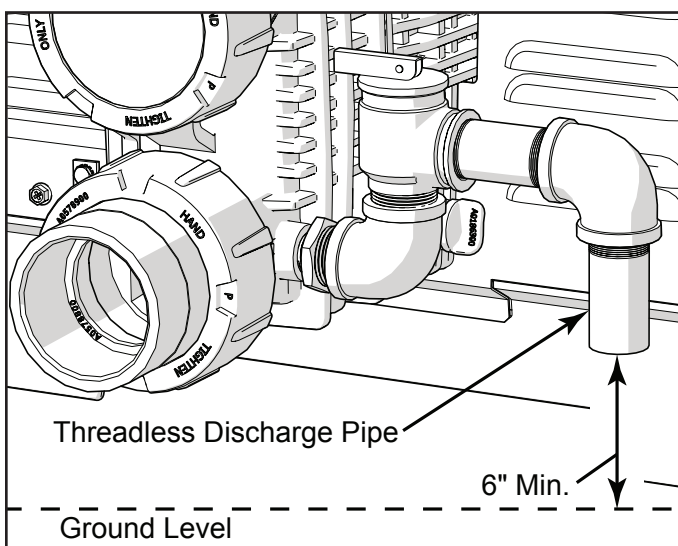

Figure 21. Install Discharge Pipe
19. Discharge piping must be facing down, terminating with a threadless nipple, no less than 6" from floor. See "Figure 21. Install Discharge Pipe" on page 21.
2. Connect the wires from the power source to the leads on the heater (Figure 21).